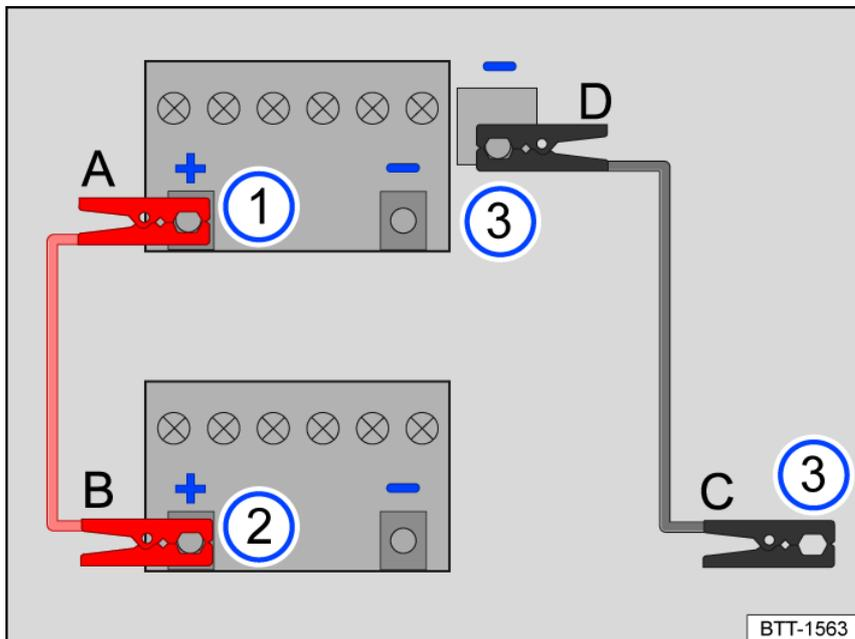
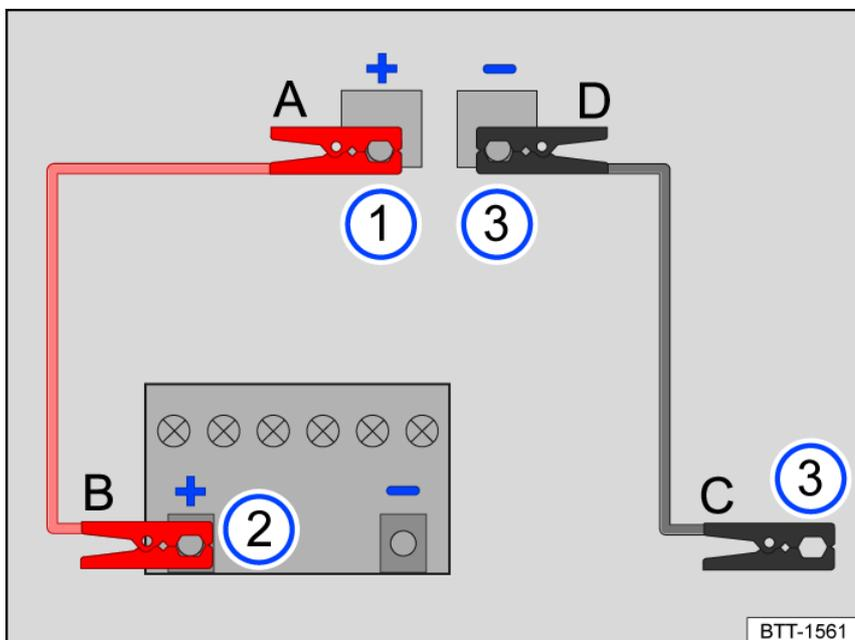

Fig. 191 Diagram for connecting the jumper cable (12-volt vehicle battery in the engine compartment).
Fig. 192 Diagram for connecting the jumper cable (12 V vehicle battery in the luggage compartment).
Only connect the jumper cables in the sequence **A – B – C – D** *fig. 191*.
3. Connect one end of the *red* jumper cable **A** to the positive battery terminal (+) in the vehicle with the discharged 12 V vehicle battery *fig. 191* ① ⇒ ⚠.
4. Connect the other end of the *red* jumper cable **B** to the positive battery terminal (+) of the vehicle supplying the power *fig. 191* ②.
5. Connect one end of the *black* jumper cable **C** preferably to a jump-start point negative terminal (-), otherwise to a robust metal part that is bolted securely to the engine block or to the engine block itself of the vehicle supplying the power *fig. 191* ③.
6. Connect the other end of the *black* jumper cable **D** preferably to the jump-start point ground connection on the vehicle with the discharged 12-volt vehicle battery (-), otherwise to a large metal part bolted to the engine block or to the engine block itself *fig. 191* ③ ⇒ ⚠.
Only connect the jumper cables in the sequence **A – B – C – D** *fig. 192*.
3. Connect one end of the *red* jumper cable **A** to the jump-start point positive battery terminal (+) on the vehicle with the discharged 12-volt vehicle battery *fig. 192* ① ⇒ ⚠.
4. Connect the other end of the *red* jumper cable **B** to the positive battery terminal (+) of the vehicle supplying the power *fig. 192* ②.
5. Connect one end of the *black* jumper cable **C** preferably to a jump-start point negative terminal (–) on the vehicle providing the power from its 12 V vehicle battery, otherwise to a robust metal part bolted to the engine block or to the engine block itself *fig. 192* ③.
6. Connect the other end of the *black* jumper cable **D** preferably to the jump-start point ground connection on the vehicle with the discharged 12-volt vehicle battery (–), otherwise to a large metal part bolted to the engine block or to the engine block itself *fig. 192* ③ ⇒ ⚠.
3. With the engines running, always disconnect the jump-start cables in the sequence **D – C – B – A** *fig. 191* or *fig. 192*.